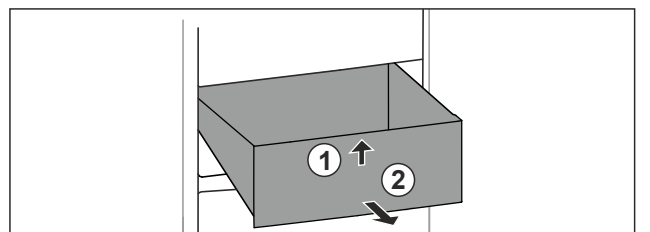

Fig. 91
- ▶ Lift up drawer at the front. Fig. 91 (1).
- ▶ Remove drawer to the front. Fig. 91 (2).